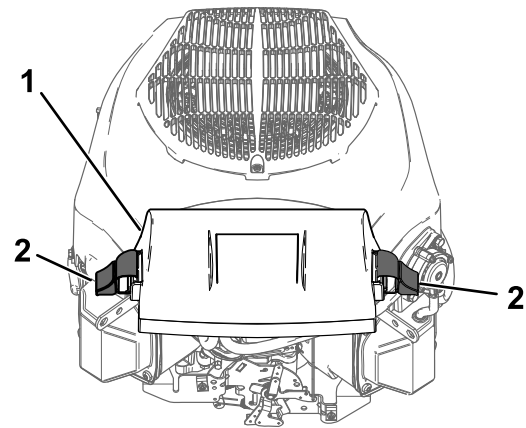

Figure 30
3. Install the cover and secure it with the retaining clamps (Figure 30).